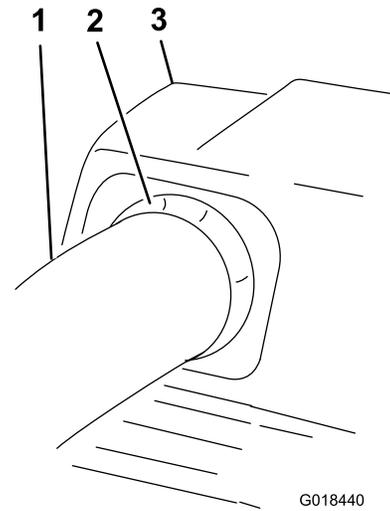

Figure 30
11. Pull the upper tube out slightly so that the seal extends outward and over the lower tube (Figure 30).
20. Pull the upper tube out slightly so that the seal extends outward and over the blower assembly (Figure 30).